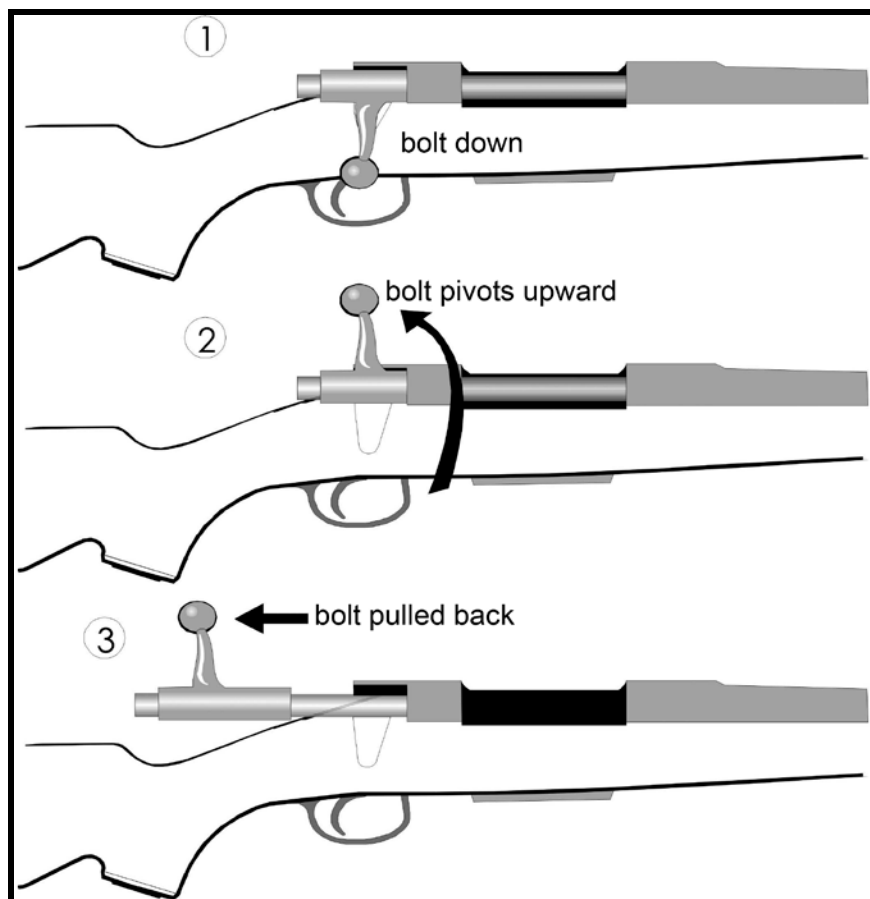

Figure 52. Bolt-action repeater
- c. The **safety mechanism** is usually located on top of the action above the trigger area on the left or right side of the bolt. This is often a lever type safety but can also be a slide/tang located directly behind the bolt (Figure 52).